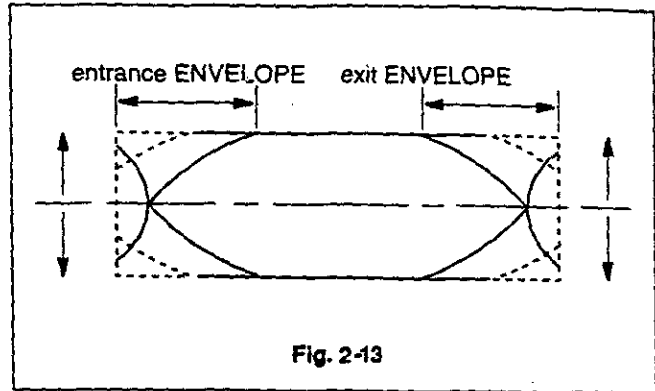

Fig. 2-13
- B. Switch the REVIEW mode to the PLAY mode. Make sure state within 3 seconds as shown in Fig. 2-13. If it does not rise within 3 seconds after servo locking adjust as follows.
- A. Record video signals (color bar or monoscope on T-120 Tape) and make sure the playback envelope output meets the specification as shown in Fig. 2-13.